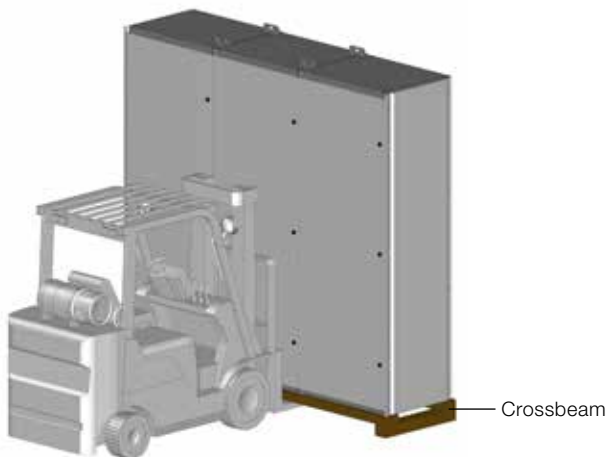

Fig. 16 Fork-lift transport
- If necessary, by means of rollers (min. 3 pieces). The wooden crossbeams must be removed for roller transport (only for units weighing up to 1200 kg) (see fig. 16).